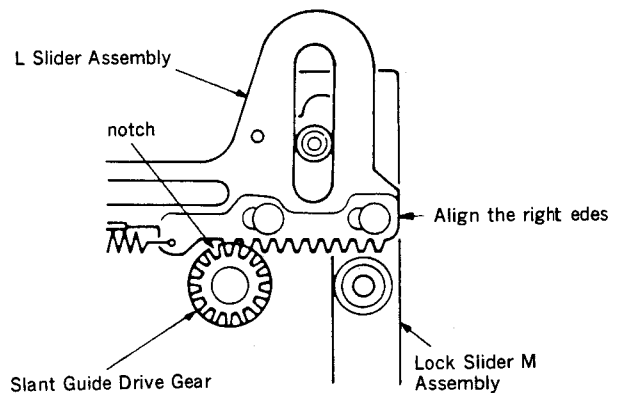

Fig. 4
- (3) Press the L-mode select button of the Mode Selector and align the right edges of the L Slider Assembly and the Lock Slider M Assembly. (fig. 4)
- (4) Engage the Slant Guide Drive Gear with L Slider Assembly so that the notch of the Drive Gear is 1 tooth away from the left and gear of the L Slider Assembly as shown in the figure 4.
- (5) Assemble the parts with Removal Steps (1) to (5) in reverse order.